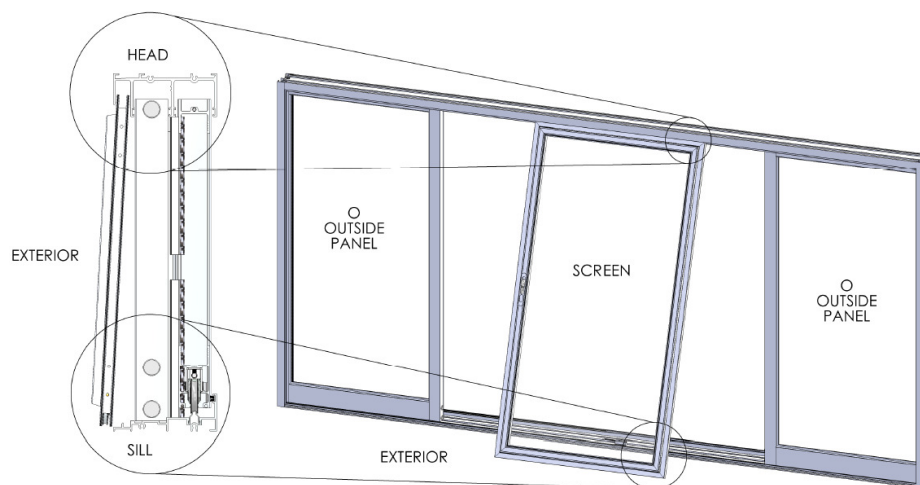

Figure 26:
1. Insert the screen into the outside channel of the head. Push up and swing the bottom of the screen in and down onto the outside track (Figure 26).